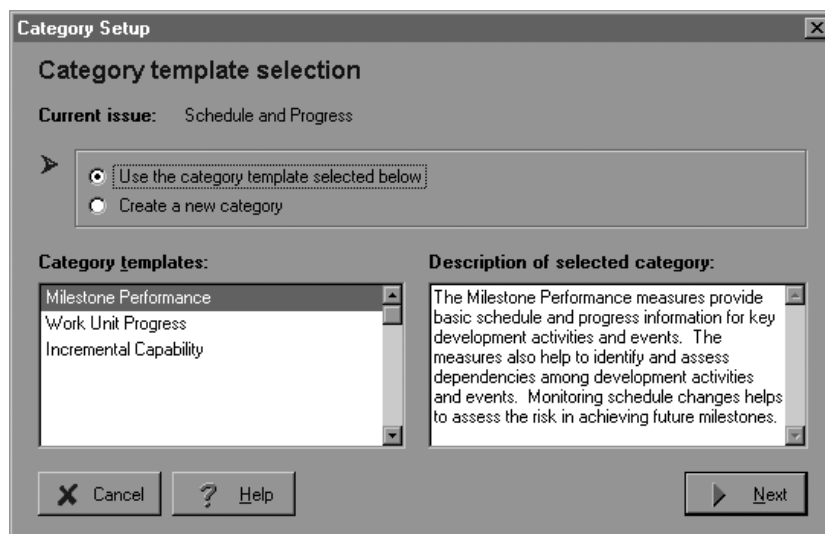

Figure 4. Select from default categories or create new ones.
**Step 2:** Define the categories for Schedule and Progress. With the Schedule and Progress issue highlighted, click on “Add” and select “Categories.” The category selection window (Figure 4) allows you to select default categories or create new ones. In this case, we will select the default Milestone Performance. Choose “Next” to further define the category, then select “Save.”